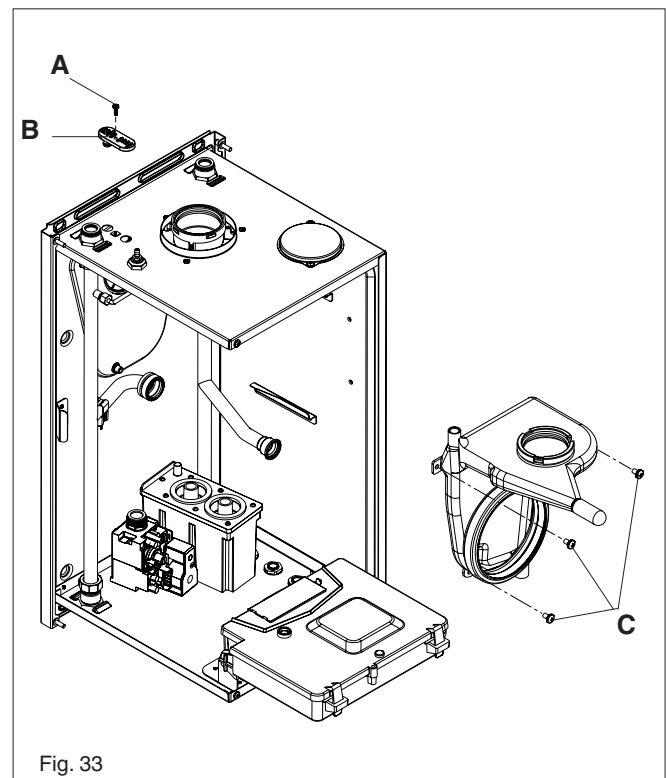

Fig. 33
6.15 FLUE COLLECTOR REMOVAL (fig. 33)